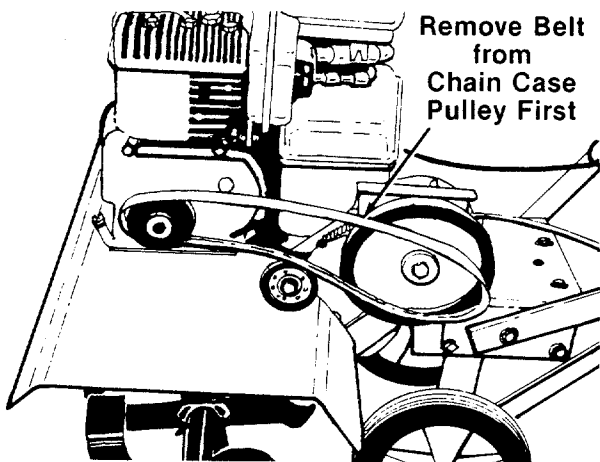

FIGURE 25.
3. Slip the belt off the chain case pulley first, then off idler pulley. Remove belt from engine pulley. See figure 25.